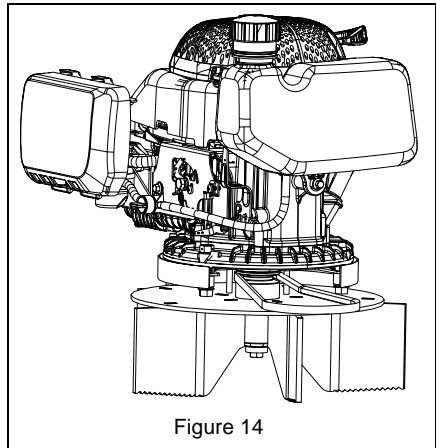

Figure 14
8. Remove belt from engine sheave. See Figure 14.